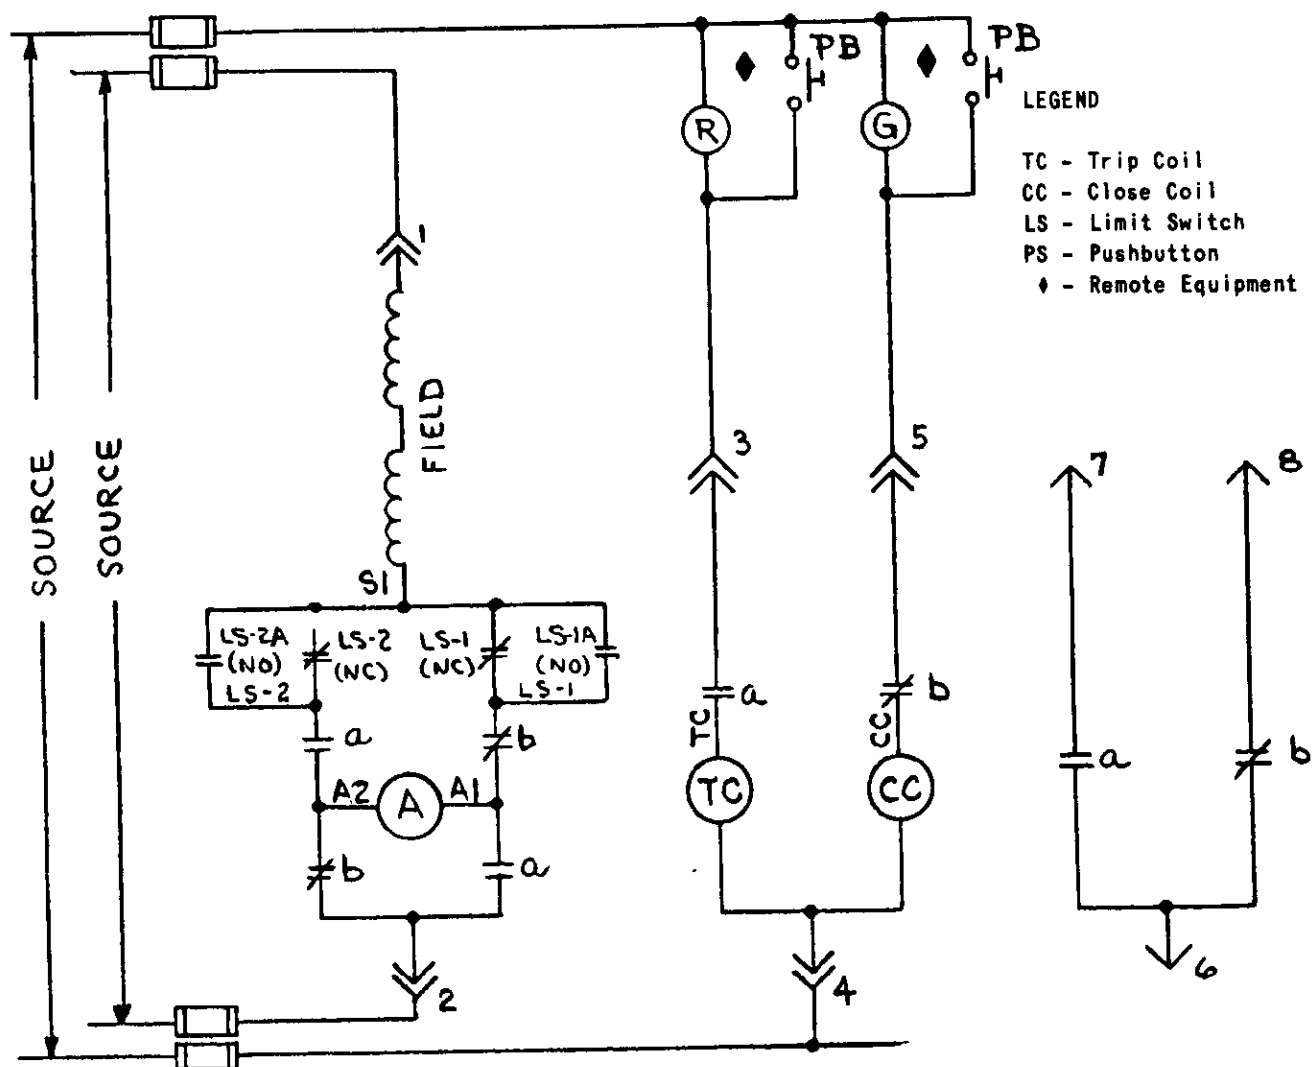

FIGURE 3
Schematic Diagram, Fig. 3, is applicable for either A-C or D-C operation. The main limit switches, LS-1 and LS-2 are connected with normally closed contacts (NC), while the auxiliary limit switches, LS-1A and LS-2A, have normally open contacts (NO).